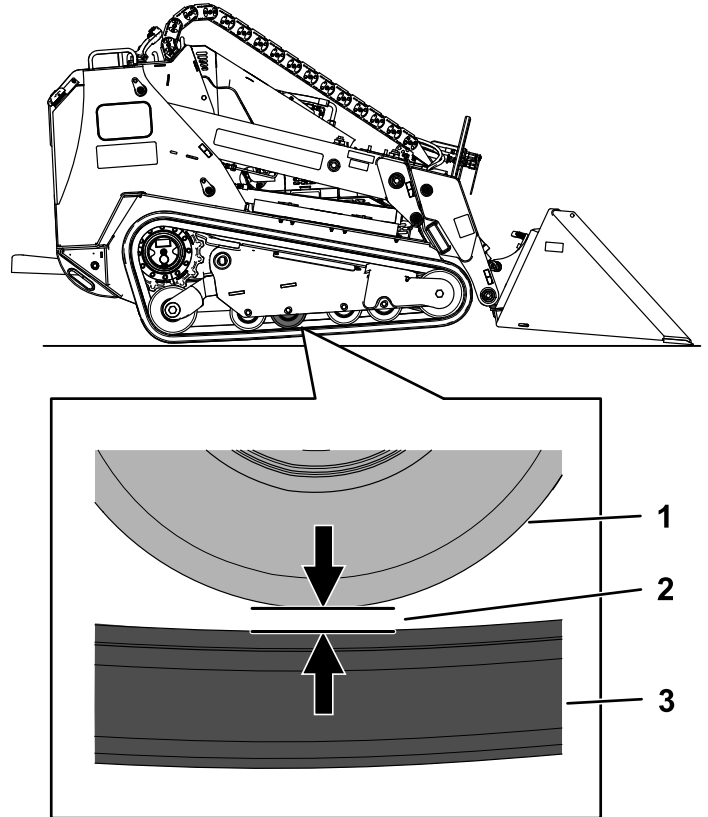

Figure 65
4. Verify that the gap between the 2nd road wheel from the rear and the track is 20 mm (0.8 inch) as shown in Figure 65. If adjustment is needed, proceed to Adjusting the Track Tension \(page 49\)
7. Using a 1/2 inch drive ratchet, turn the tensioning screw until the gap between the road wheel and track is 20 mm (0.79 inch) as shown in Figure 65.
the road wheel and track is 20 mm (0.79 inch) as shown in Figure 65.